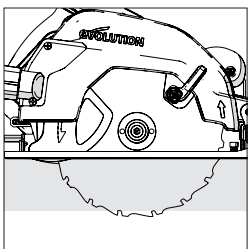

Fig. 12
- In most cases the cutting depth should be set at the thickness of the material to be cut plus the depth of half of a saw tooth (tip of the tooth to the tooth root). **(Fig.12)**